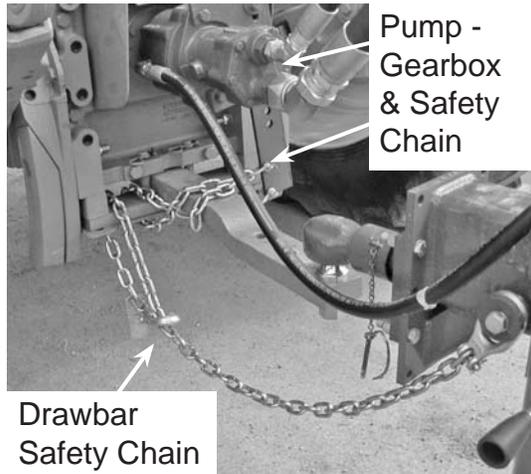

Figure 8 - Connect Hitch, Pump-Gearbox and Safety Chains
4. Connect hitch to tractor ball and drawbar safety chain to tractor. Connect the pump - gearbox and safety chain (see figure 8)